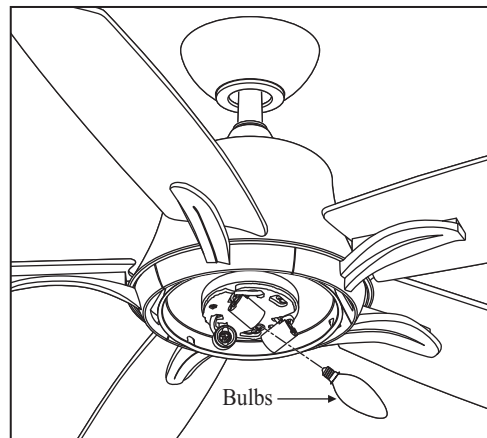

Figure 21
4. Install 3 x 40W candelabra bulbs (included). (Fig. 21)